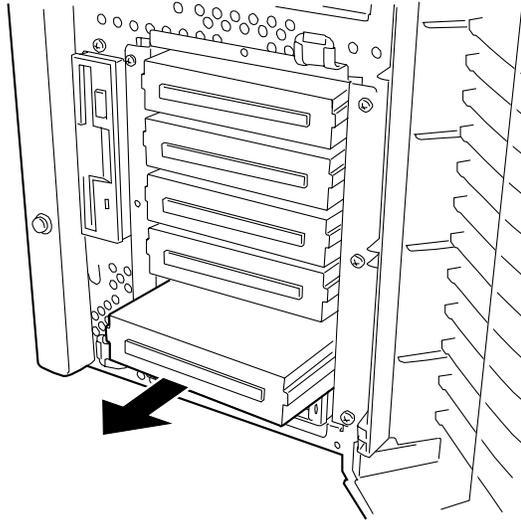

Figure 4-19. Removing the Dummy Tray
4. Remove the dummy tray. See Figure 4-19.